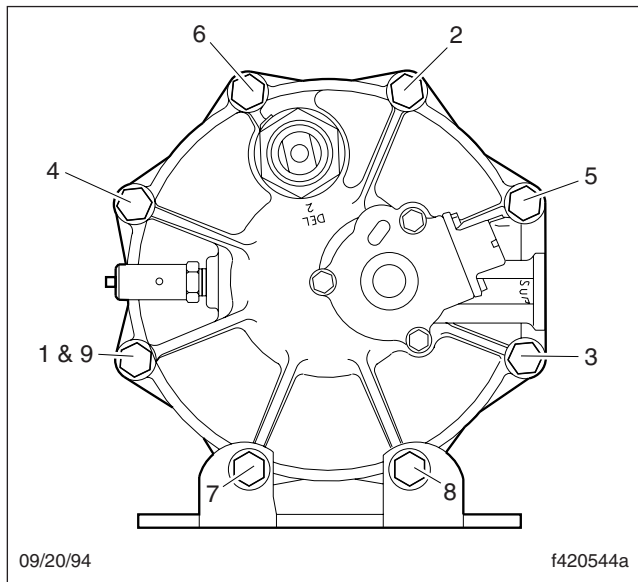

Fig. 2, End Cover to Housing Torque Pattern
16. Install the 6 capscrews, 12 washers, and 6 new Nylok nuts. Tighten the capscrews in a star pattern 270 to 385 lbf·in (3050 to 4350 N·cm). See **Fig. 2**.